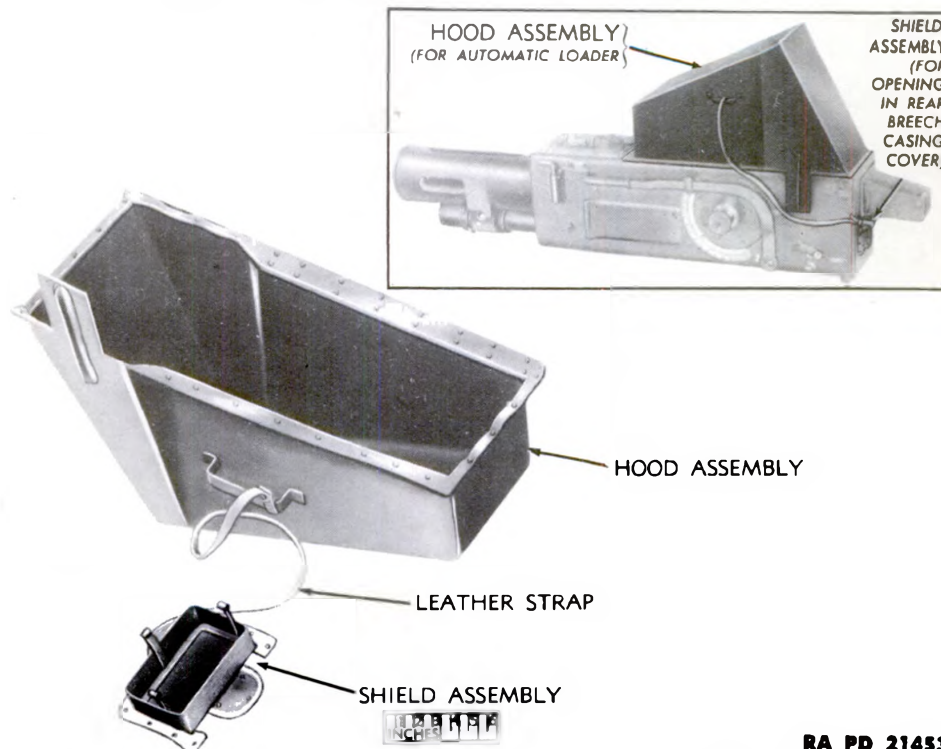

Figure 210 – Automatic Loader Hood and Shield C95025
c. **Automatic Loader Hood and Shield.** This hood and shield (fig. 210) consists of a large steel hood assembly to which is fastened by a leather strap, a steel shield assembly. It fits over the feed guides and the opening in the rear breech casing cover when the gun is not in use, protecting the automatic loader against dirt and weather.